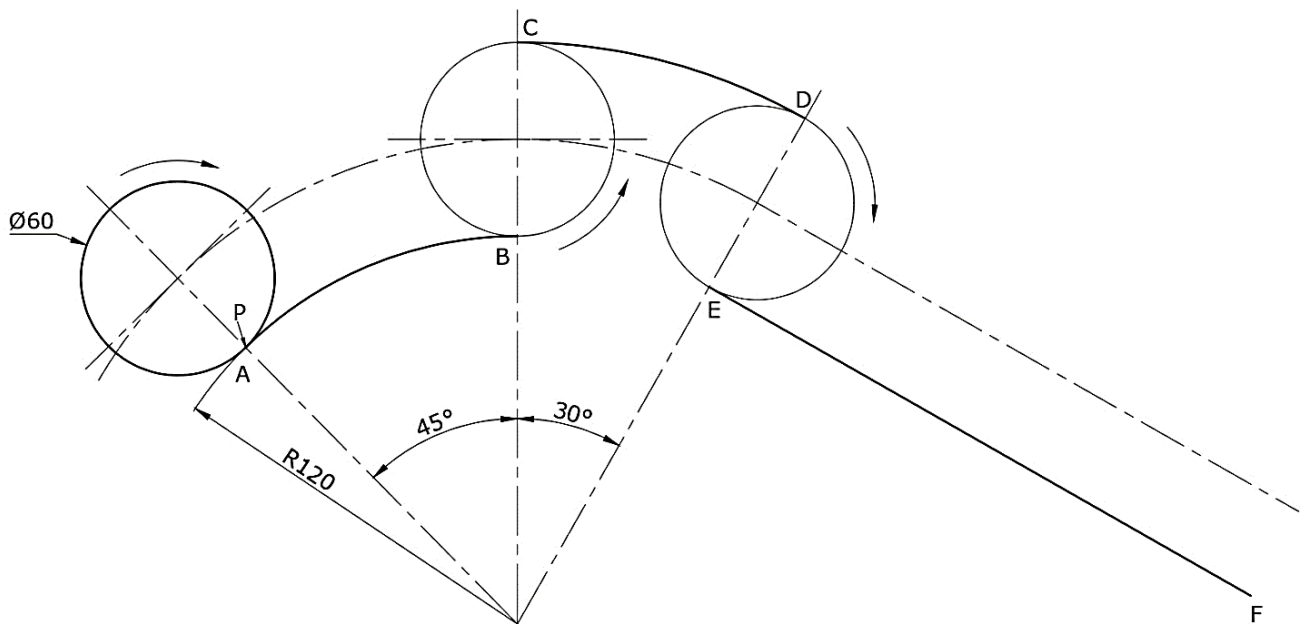

Figure 1b
- a) Copy, full size, Figure 1b and construct the locus of the point 'P' when the circle rolls;
- i. for half a revolution on the base circle, from the initial position 'A' to the point 'B'. (4)
- ii. for another half of a revolution on the inside of the base circle, from the point 'C' to the point marked 'D'. (4)
- iii. for one revolution on the inclined line, from the point marked 'E' to the end of the line marked 'F'. (3)
- b) Name the technical terms for the **THREE** types of curves. (2)